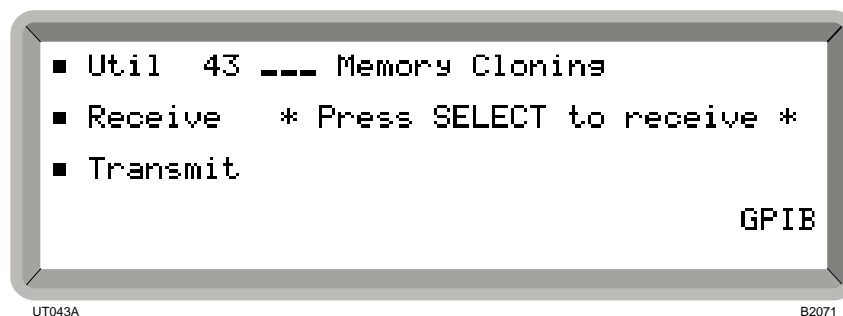

Fig. 4-29 Memory cloning menu (showing instrument ready to receive via the GPIB)
- (1) Ensure that the correct mode of operation, either GPIB or RS-232, has been selected for both instruments using *Util 50: Remote Operation Select*.
- (2) Select *Util 43: Memory Cloning* on transmitting and receiving instruments to display the menu shown in Fig. 4-29. Check that all instruments show the same remote mode – either *GPIB* or *RS232*.